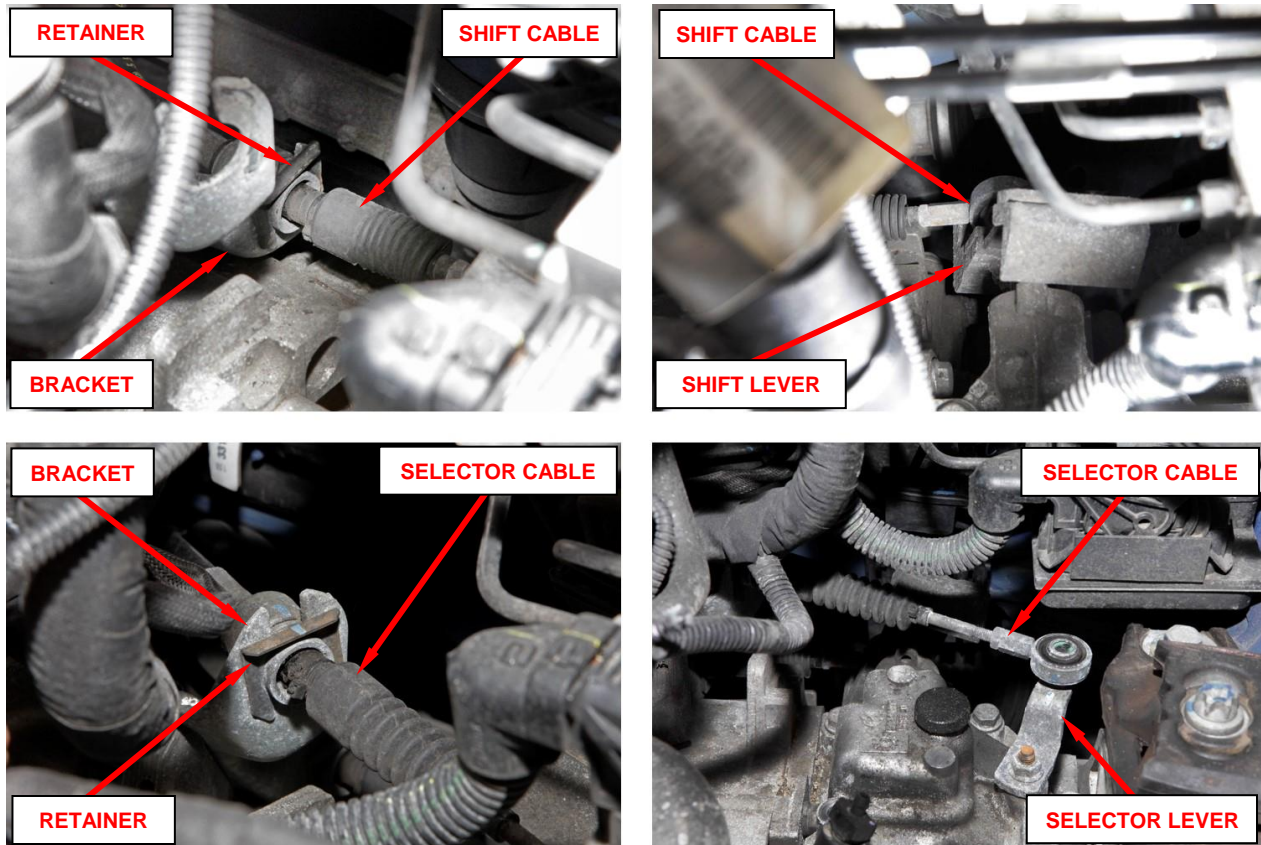

Figure 25 – Selector Cable and Shift Cable
7. Disconnect the selector cable from the selector lever (Figure 25).
8. Remove and save the selector cable retainer (Figure 25).
9. Reposition the selector cable away from the mounting bracket (Figure 25).
10. Disconnect the shift cable from the shift lever (Figure 25).
11. Remove and save the shift cable retainer (Figure 25).
12. Reposition the shift cable away from the mounting bracket (Figure 25).